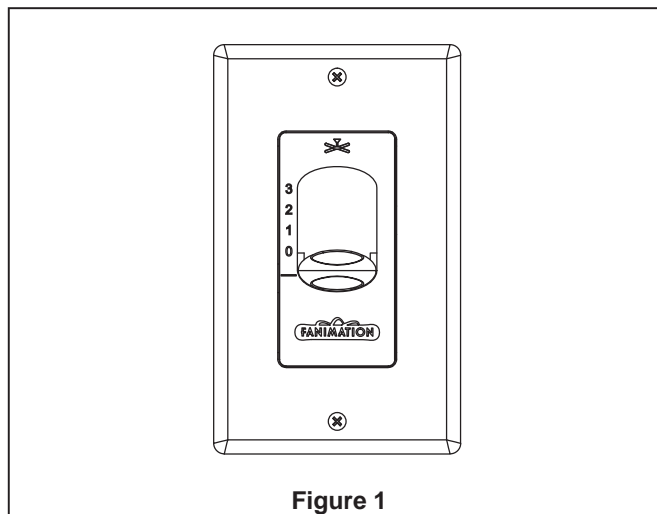

Figure 1
1. If airflow is desired in the opposite direction, turn the fan off and wait for the blades to stop turning. Slide the reverse switch on top of motor assembly to the opposite position and turn fan on again. (Figure 1)